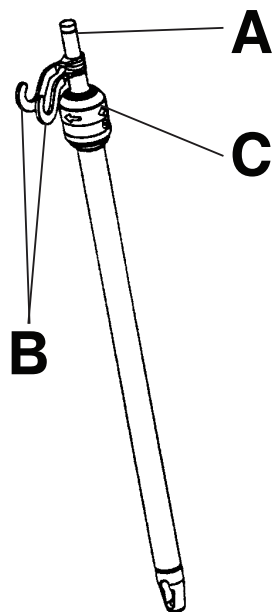

Figure 25 – Havasu two-stage IV pole
2. To raise the height of the pole, pull up on the telescoping portion (A) of the pole until it locks into place at the fully raised position (Figure 25).
3. Rotate the IV hangers (B) to the desired position and hang the IV bags (Figure 25).
4. To lower the pole, turn the latch (C) clockwise until the telescoping portion (A) lowers into the bottom tube (Figure 25).